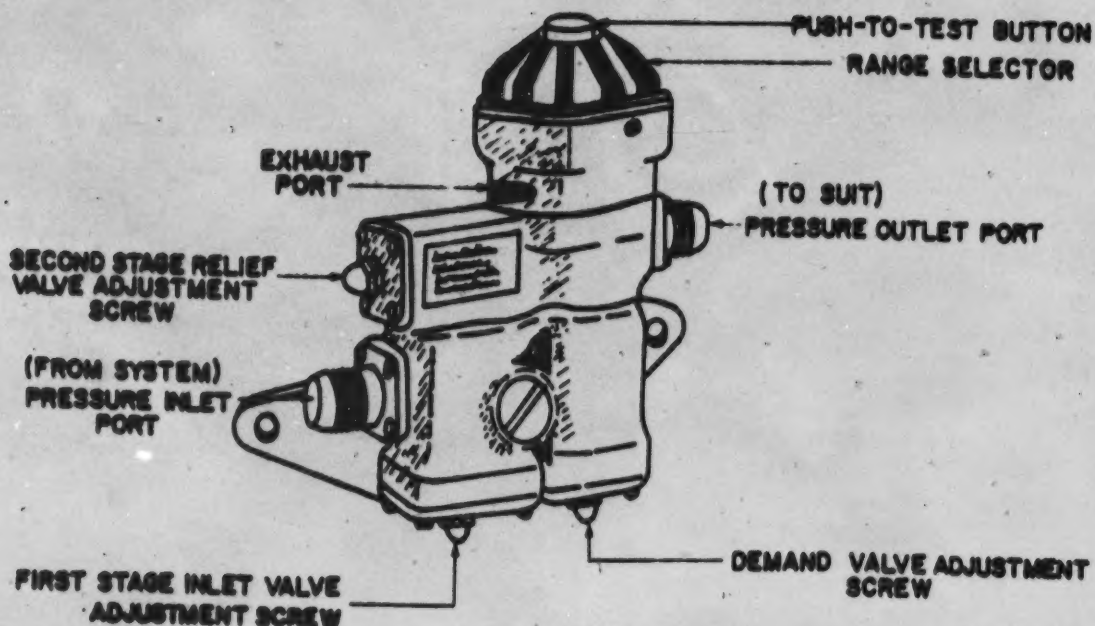

Figure 1. Anti-G Suit Valve (Part Number 10050).
2. Locate the first stage relief valve on the anti-G suit valve. Refer to figure 1 of this text. Use the adjustable jaw wrench to remove the valve.
5. Slowly increase air pressure until gage P3 indicates 30 to 35 psi. If manometer does not remain at the specified air pressure, notify your instructor. Do not make any adjustments at this time. Read the adjustment procedures in TO 9P5-3-12-3. Figure 2-1, index 19 of the TO locates the adjustment screw on the anti-G suit valve. Figure 1 of this workbook also locates the adjustment screw. Refer to figure 2-1 of the TO. Nut (index 14) must be removed. Loosen lock nut (index 15) before turning the adjustment screw. Turn the screw clockwise or counterclockwise until the desired pressure is indicated on manometer M4. After the adjustment is made, the adjustment screw must be held in place before tightening the lock nut. After the lock nut has been tightened, install and secure nut (index 14).
7. If the pressure setting is not within the maximum and minimum range, notify your instructor. Do not make any adjustments at this time. Read the adjustment procedures in TO 9P5-3-12-3. Figure 2-2, index 6 of the TO locates the adjustment screw on the anti-G suit valve. Figure 1 of this workbook also locates the adjustment screw. Refer to figure 2-2 of the TO. Nut (index 1) must be removed. Loosen lock nut (index 2) before turning the adjustment screw. Turn the screw clockwise or counterclockwise until the desired pressure is indicated on manometer M4. After the adjustment is made, the adjustment screw must be held in place before tightening the lock nut. After the lock nut has been tightened, install and secure nut (index 1).
12. Arrange the parts on the workbench in an orderly manner. You should have: a hose, a ground laboratory test kit, two (2) caps, and hand tools. The trainer should have: an anti-G suit valve, a hose connected between 7A and D6, and a hose connected to 7B.